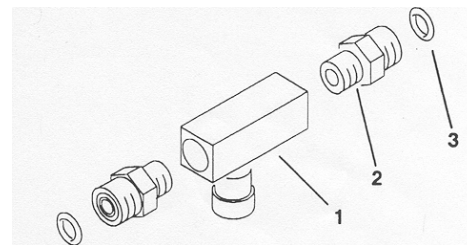

Figure 11
2. Assemble the hydraulic fittings to the flow control valve (Fig. 11).
Note: Make sure all O-rings are properly positioned when making connections (Fig. 11).